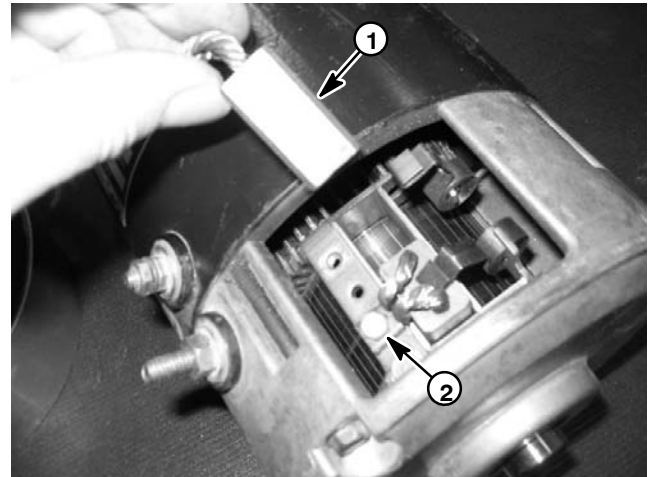

Figure 49
6. If vehicle is often operated in severely dirty environments, brush should be removed from motor to allow inspection of mating surface of brush (Fig. 49). If brush surface is rough, pitted, arced or scored, additional brush and/or motor inspection should be completed (see Traction Motor and Traction Motor Service in this section).